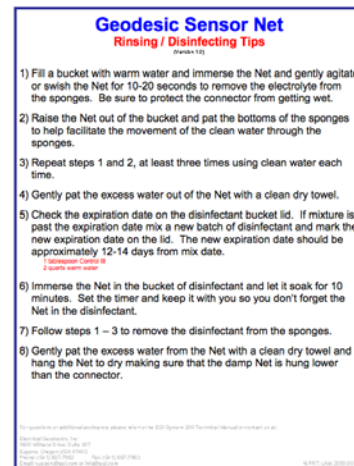

Figure D-14. Net rinsing/
- 1 Follow the instructions on the laminated Geodesic Sensor Net Rinsing/Disinfecting Tips placard that came with your system (Figure D-14).